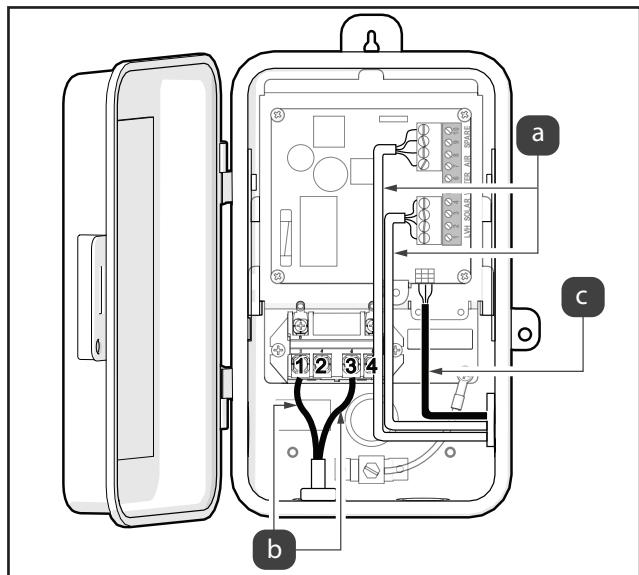

Figure 12. Pool Only Version, Connect Line Inputs & JVA Cable
2. Locate the two input power cables that come from the breaker, see Figure 12 (a).
3. Connect one ‘Line’ input to Terminal 1 and the other to Terminal 3, see Figure 12 (b).
5. Connect JVA cable, see Figure 12 (c).